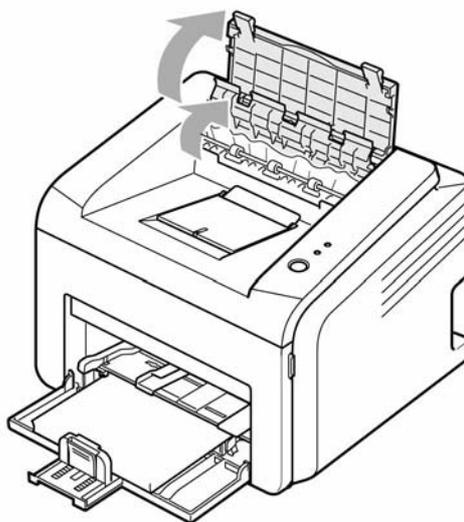

Figure 2
3. Open the exit cover, PL 1 and fuser dummy, PL 3, Figure 2.